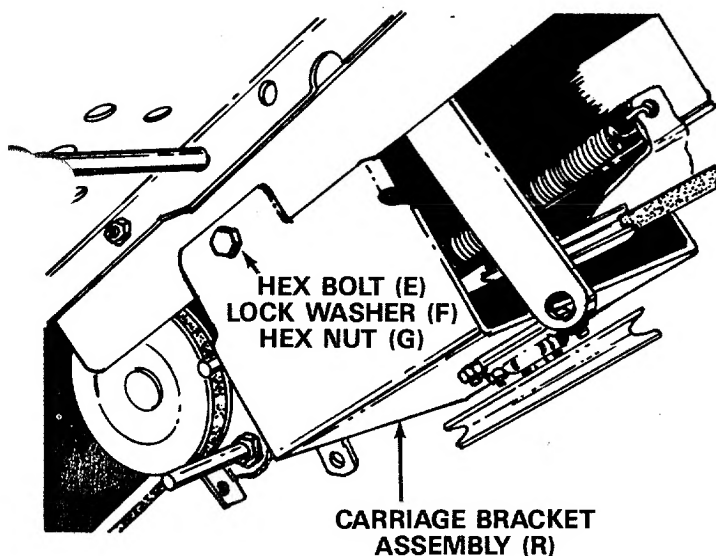

FIGURE 6
10. Secure end of idler bracket support arm assembly on the right side of tractor with one flat washer (D) and hairpin cotter (J).
11. Place carriage bracket assembly (R) in position beneath the running board support rod on the tractor. Secure each side of carriage bracket to frame with hex bolts (E), lock washers (F) and hex nuts (G). Tighten securely. See figure 6.